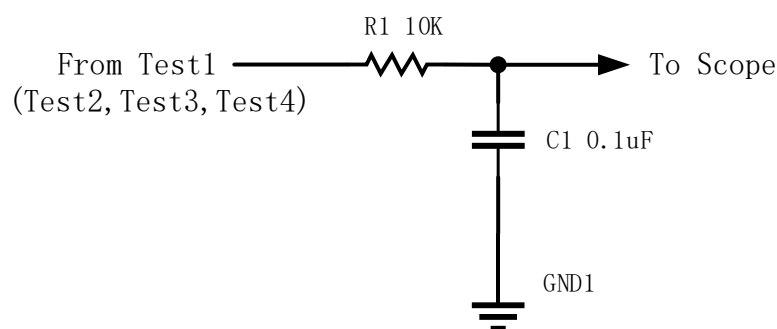
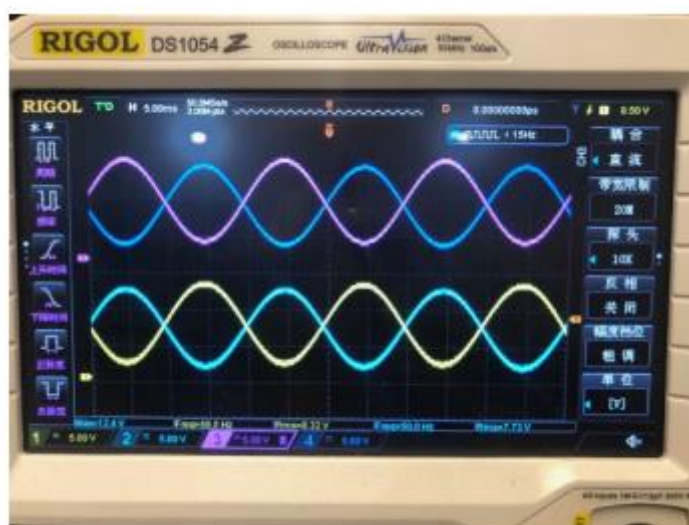

Figure 4-2a. Four RC filter for Test1,Test2,Test3 and Test4
Figure 4-2b. Output waveform of Test1,Test2,Test3 and Test4
- Step4: Four RC filter of 10K and 0.1uF are connected to the outputs of TEST1,TEST2,TEST3 and TEST4 respectively. The filter circuit is shown in Figure 4-2a. Connect an 4-channels oscilloscope to the output of four RC filters to observe waveform. When TEST1,TEST2,TEST3 and TEST4 are connected to RC filter, it will output waveform shown as Figure 4-2b,CH1 to TEST1 RC filter, CH2 to TEST2 RC filter, CH3 to TEST3 RC filter, CH4 to TEST4 RC filter.